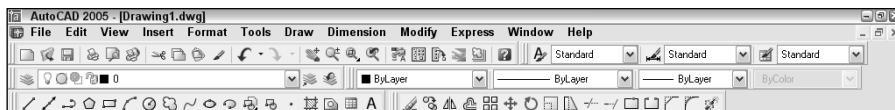

Figure 3-3: Docking the Draw and Modify toolbars at the top of the screen.
2. Click the Modify toolbar's grab bar and drag it in the same way you did the Draw toolbar until it is docked under the Properties toolbar (which is to the right of the Layers toolbar). Your screen should look something like Figure 3-3. (If your screen resolution is 800×600, the toolbar won't be completely visible. Instead, you can dock it under the Draw toolbar.)